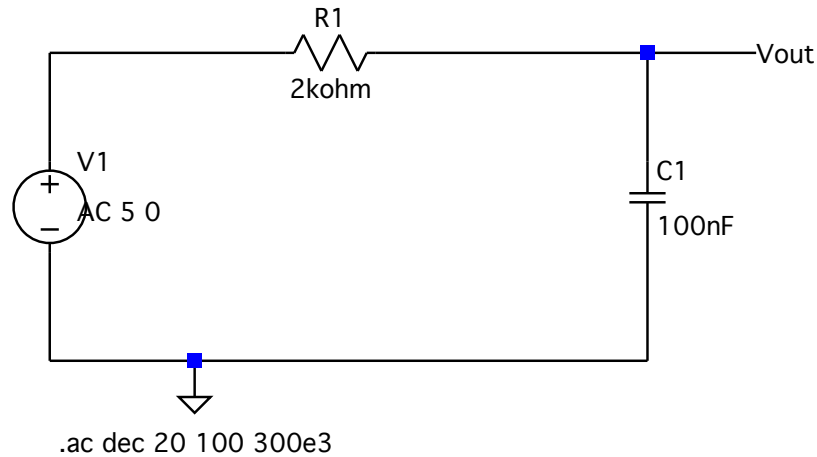

Figure 1 LTSPICE Circuit #1 Showing AC Voltage Source and AC Sweep Command
1. Create the simple circuits shown in Figure 1. The voltage source is set to be an AC source (subtly different from a SINE source), with amplitude 5V and DC offset 0 volts. Selecting an AC source permits us to use the .ac directive in LTSPICE, as shown in the figure. The .ac command increments the frequency of the source with 20 steps per decade¹ (“dec 20”) from 100 Hz to 300 kHz. Run the simulation.
1. Construct the circuit shown in Figure 1.